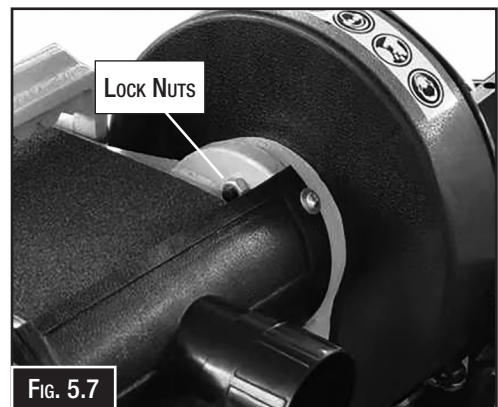

FIG. 5.7
2. Loosen the two lock nuts shown in Fig. 5.7 and slowly lift or lower the belt sander to the desired angle.